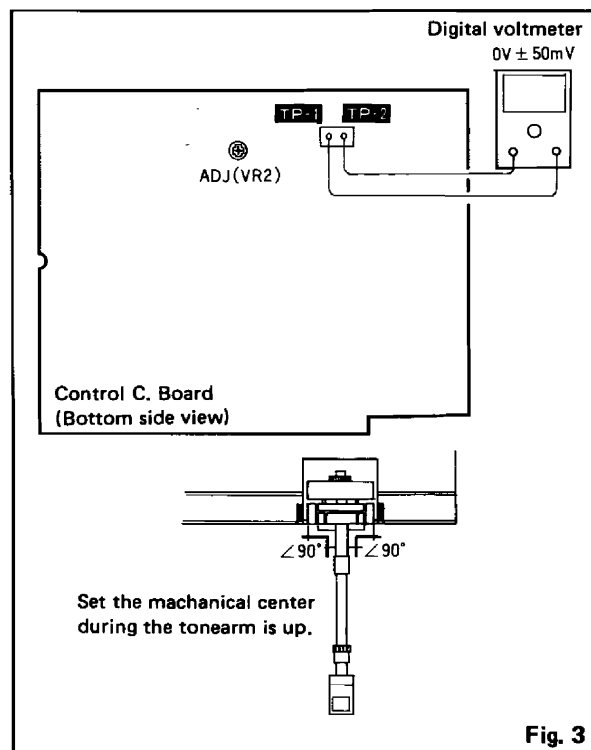

Fig. 3
- 1) As in Fig. 3, set the tonearm mechanically at the center when it is in the raised position, turn the power switch to "ON".
- 2) Connect a digital voltmeter or a similar test meter to the test points **TP1** and **TP2** in the control circuit board. And adjust the volume of VR2 (2.2 k ohms) to set at 0V±50mV (see Fig. 3).